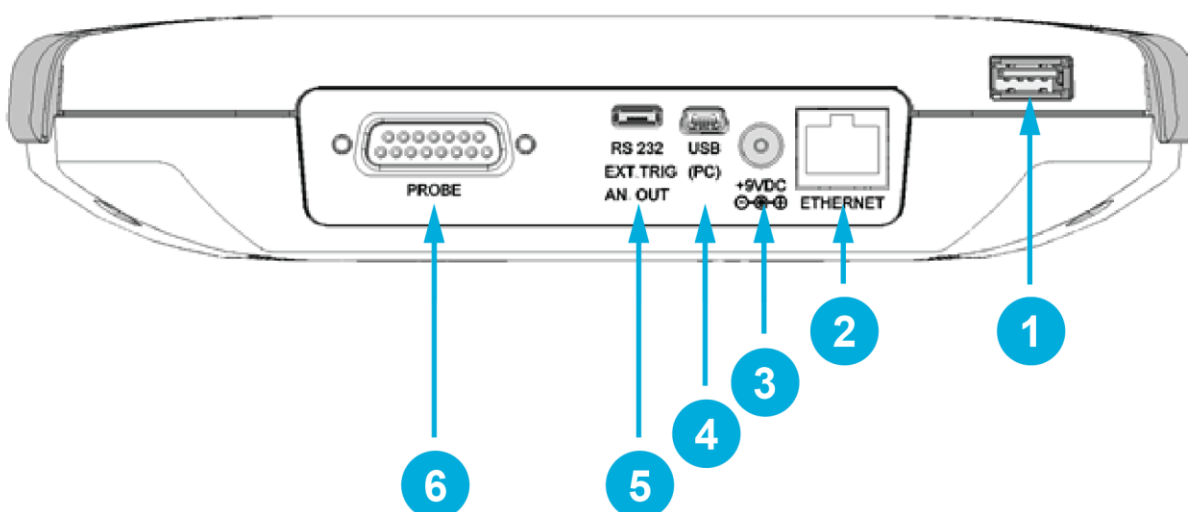

Fig. 1-2 PREMIER Top Panel
This section contains important information concerning the installation and operation of the PREMIER. The PREMIER is delivered ready to use. Just insert a detector head in the Probe Input Jack (#6 in Figure 1-2) and press the I/O key. The following window will appear on the monitor (Figure 2-1). It is separated into four different areas.
- 3- **Turn the PREMIER off** and connect a compatible power or energy detector head to the PREMIER using the **PROBE INPUT JACK** (see Fig. 1-2). The PREMIER allows hot-swapping between heads.